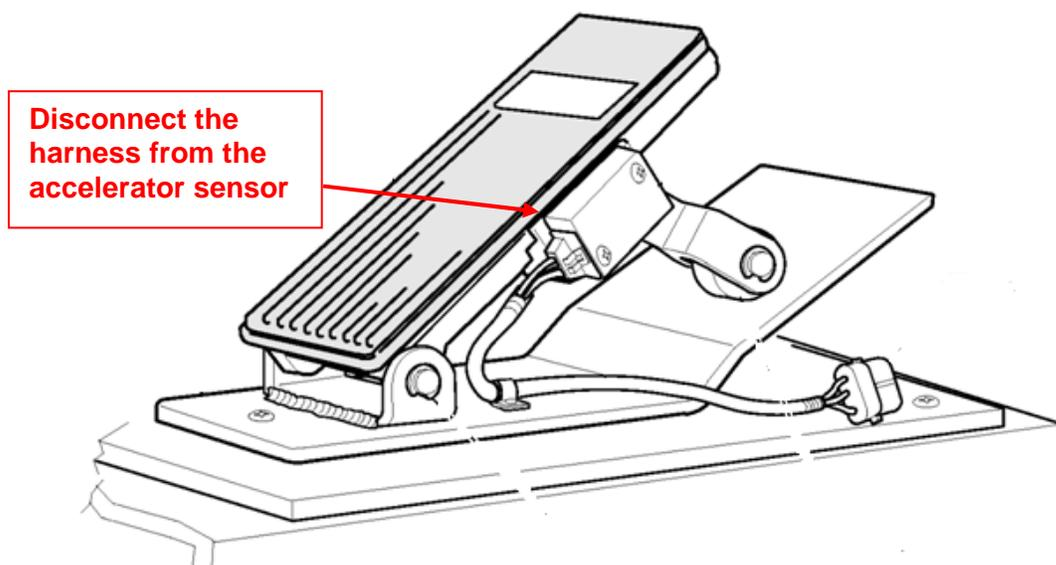

Figure 3: Brake/Accelerator Treadle Assembly
11. Disconnect the harness from the accelerator sensor, see Figure 3.